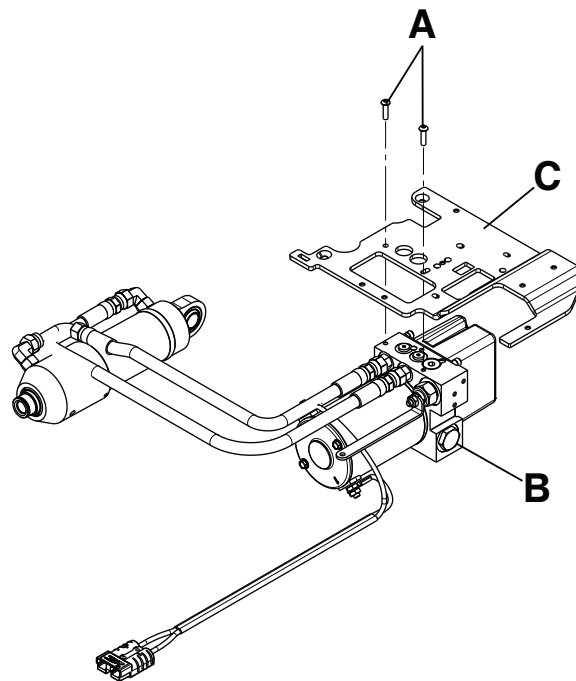

Figure 14 – Hydraulics assembly
6. Using a T25 Torx driver, remove the two screws (A) that secure the hydraulics assembly (B) to the wing plate, left (C) (Figure 14).